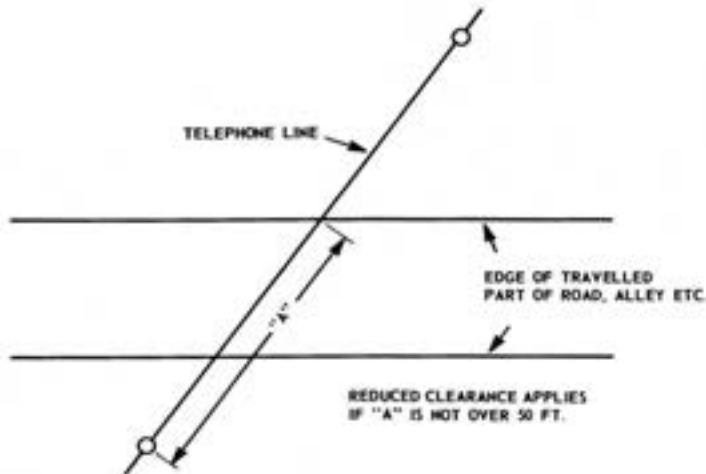

Fig. 1
1.04 Note that clearance requirements shown for wire overhanging the traveled part of public roads are considerably larger than the clearances required where no such overhang exists. Note also that clearances for wire crossing alleys, roads and driveways show one set of values for general use and a second somewhat lower set of values for use when one pole is located within 50 feet of the far edge as shown in Fig. 1.
1.05 Multiple drop wire must be installed with relatively large sags. Hence it will generally be advantageous to locate poles and wire runs so that the middle of the span will **not** be above the traveled part of the road, alley or driveway. This will often be the case at crossings when the far edge of the road, alleys, etc. is 50 feet or less from the pole. (See Fig. 1) When this condition exists, it may be possible to base the height of pole attachment on something less than 100 per cent of the midspan. The following table shows the percentage of midspan sag to be used in determining the height of pole attachment when the 50-foot criterion applies. This procedure should be ignored for spans less than 145 feet.
| Pole not over 50 ft. from far edge | Fig. 1 | 18-0 | (18-0) | 18-3 | (18-0) | 18-5 | (18-0) | 18-6 | (18-0) |
| Pole not over 50 ft. from far edge | Fig. 1 | 15-0 | (15-0) | 15-3 | (15-0) | 15-5 | (15-0) | 15-6 | (15-0) |
| Pole not over 50 ft. from far edge | Fig. 1 | 10-0 | (10-0) | 10-3 | (10-0) | 10-5 | (10-0) | 10-6 | (10-0) |